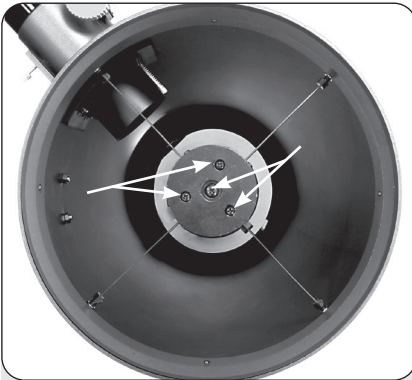

Fig 31b: The four collimation screws on the secondary mirror housing
2. If the reflection of the primary mirror (3, Fig. 31a) is not centered on the surface of the diagonal mirror, adjust the 4 collimation screws on the plastic diagonal mirror housing to center the reflection. As described above, the 4 collimation screws (Fig. 31b) on the plastic diagonal mirror housing are used for two different adjustments during the collimation procedure.